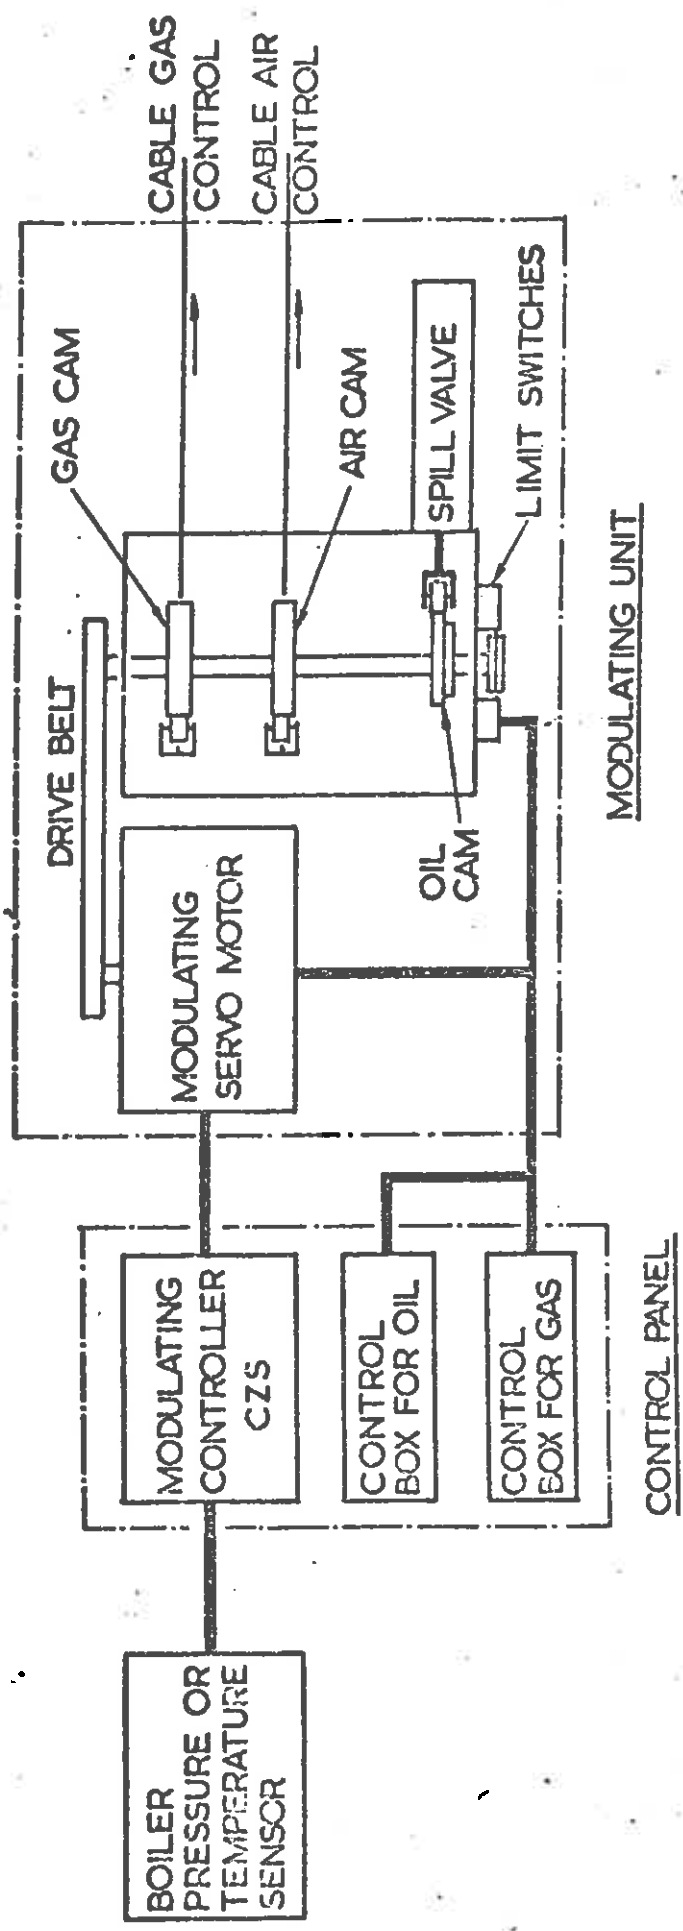

FIG. 1 BLOCK DIAGRAM OF MODULATING CONTROL SYSTEM
5.1 General Description: The Nu-Way modulating dual fuel control system (Fig 1) is designed to respond to an error signal between a set value of boiler temperature or pressure and an actual value measured at the boiler. The signal is produced by a Satchwell climatronic CZS modulating controller and used to drive a servo motor which in turn drives a cam-shaft through a timing belt. Three adjustable cams (see Fig 1) are mounted on the cam shaft, one of which is connected to a flexible cable operating the burner air inlet control damper, one to a cable operating the gas control butterfly valve, and the third directly operates the hydraulic spill valve.